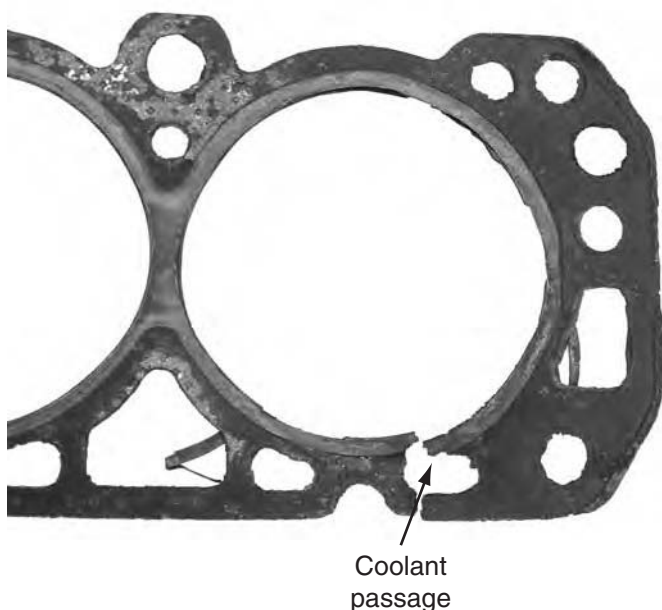

FIGURE 3.58 This blown head gasket resulted in coolant leaking into the cylinder and combustion gases leaking into the coolant. (Courtesy of Tim Gilles)
- In combustion areas like the head gasket (**Figure 3.58**)